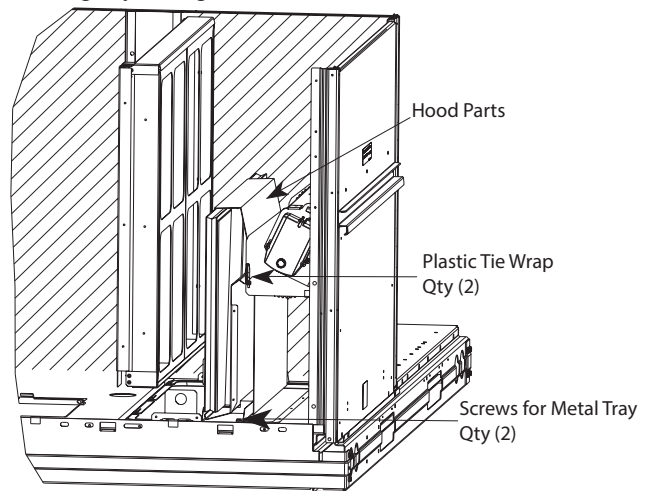

Fig. 9 — Economizer and Two-Position Damper Hood Parts Location
3. Locate the (2) screws holding the metal tray to the basepan and remove. Locate and cut the (2) plastic tie-wraps securing the assembly to the damper. (See Fig. 9.) Be careful to not damage any wiring or cut tie-wraps securing any wiring.